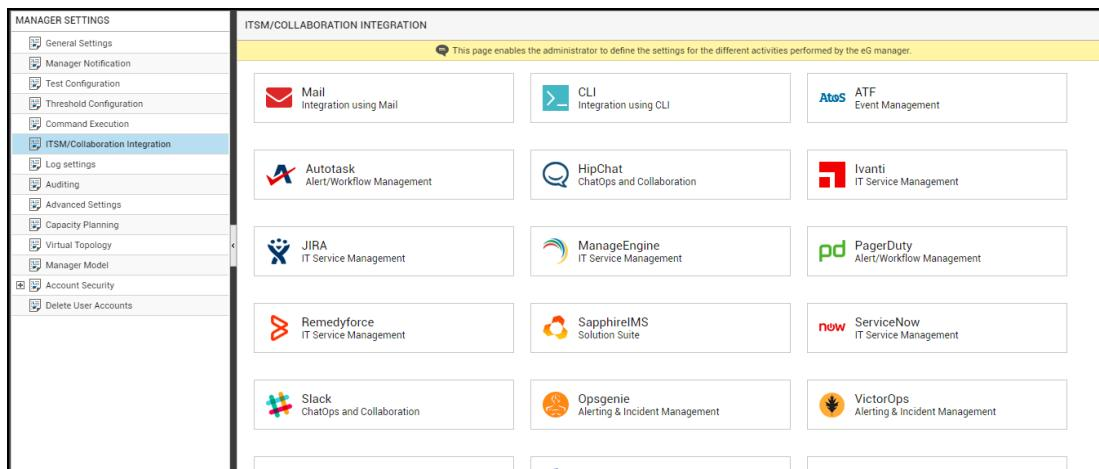
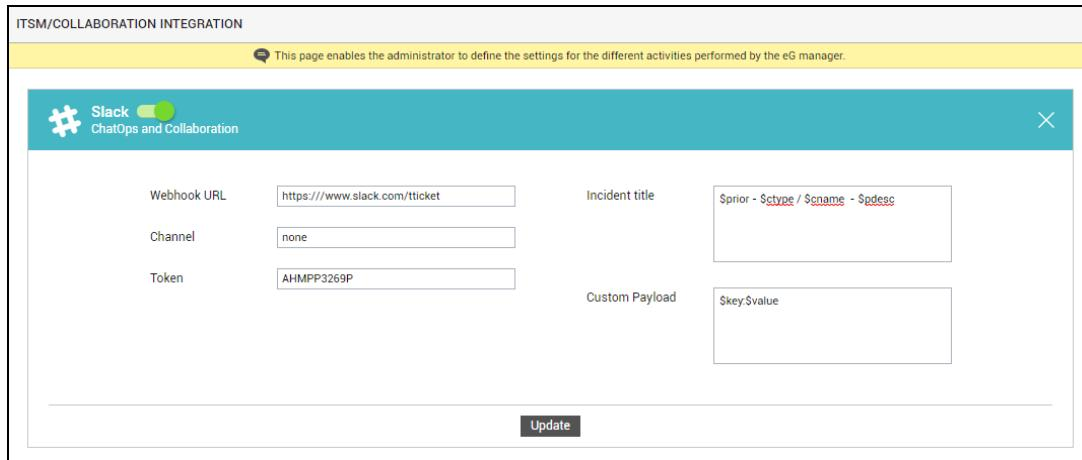

Figure 5.13: Viewing the ITSM/Collaboration tool options
Figure 5.14: Configuring integration with Slack
3. Figure 5.13 will then appear. From the **MANAGER SETTINGS** tree in the left panel of Figure
4. Now, click on the **Slack** option in the right panel (see Figure 5.13). A **Slack** section will now appear in the right panel (see Figure 5.14).
5. To enable integration with Slack, first slide the **Slack** slider in Figure 5.14 to the right.
6. Then, specify the following in Figure 5.14: